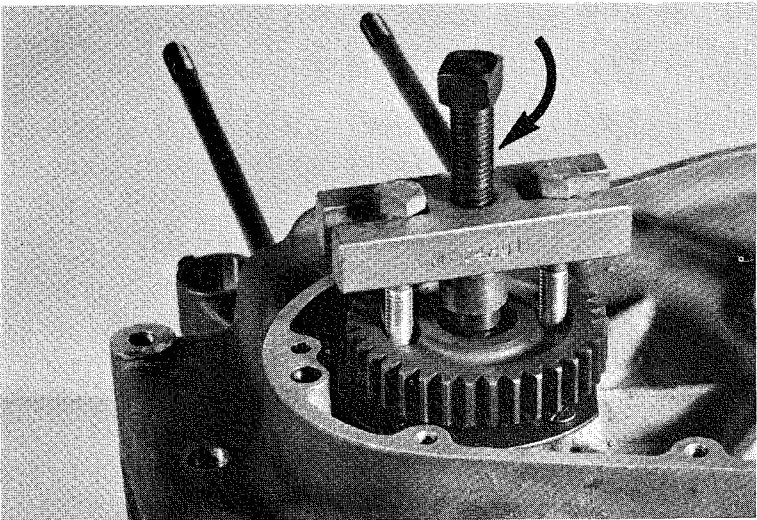

Fig. 7
7. Pull off the drive gear, using puller No. 15 19 275-01 (sprocket puller in which the jaws are replaced by two M8x50 bolts screwed into the gear). See Fig. 7.